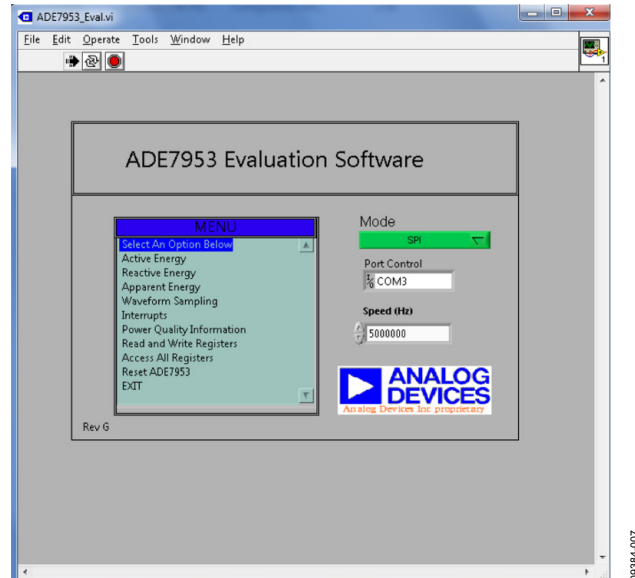
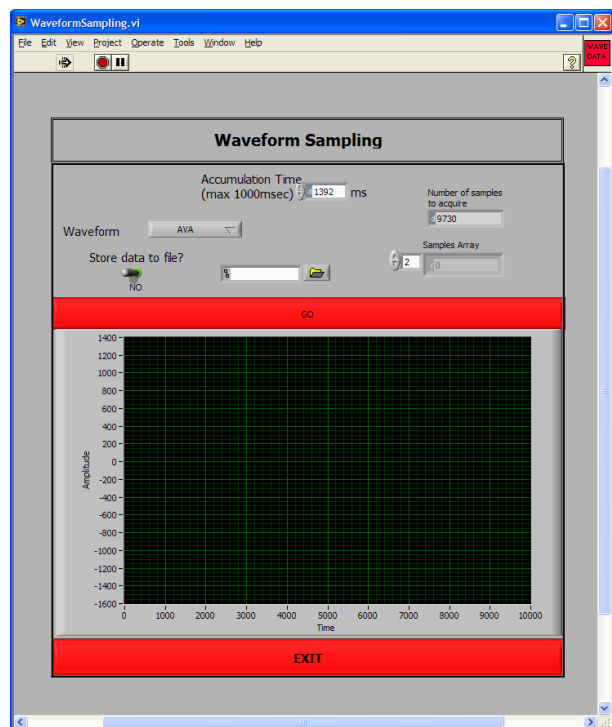

Figure 7. Main Window
Figure 14. Waveform Sampling Window
When the evaluation software is running, it should automatically detect the COM port that the **ADE7953** interface board is connected to. If the port detection is successful, the COM port number appears in the **Port Control** field, as shown in Figure 7 (COM3 in this example).
1. Click **Yes** to return to the main window (see Figure 7).
The **ADE7953** evaluation software allows access to all registers and features of the **ADE7953** using SPI, I²C, or UART communication. The communication mode and speed should be set in the main window (see Figure 7). The menu options available are
These options provide access to all internal registers and allow the evaluation of **ADE7953** performance. To access these functions, click the desired option in the **MENU** box (see Figure 7).
The **Waveform Sampling** window is available from the **MENU** box. The **Waveform Sampling** window is shown in Figure 14. To use the **Waveform Sampling** window, SPI must be selected as the communication interface (see Figure 7).